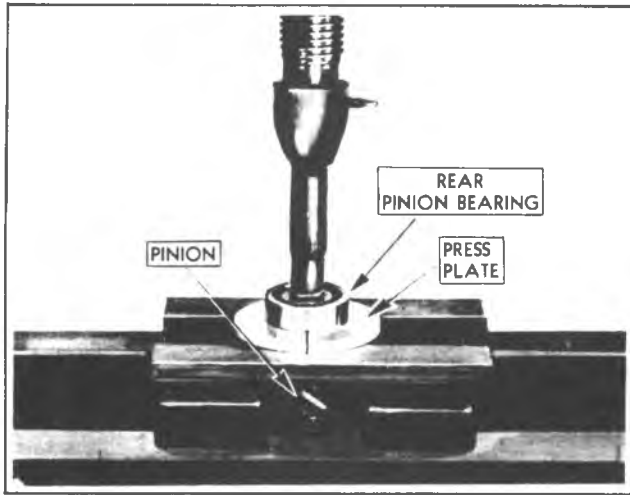

Fig. 2G-Pinion Rear Bearing Removal
5. Remove pinion rear bearing snap ring and press bearing from pinion, using Tool J-1453, as shown in figure 2G.